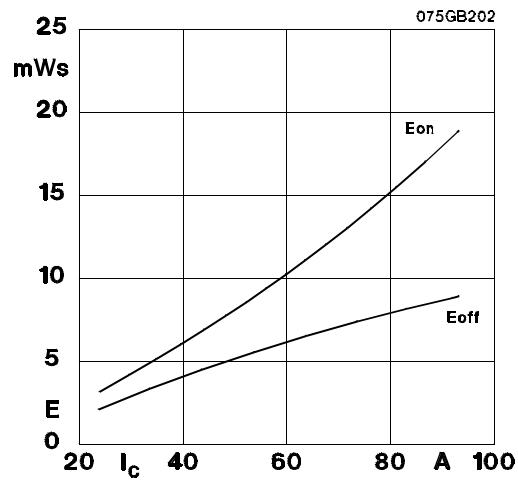

Fig. 2 Turn-on /-off energy =  $f(I_c)$
5) See fig. 2 + 3;  $R_{Goff} = 22 \Omega$